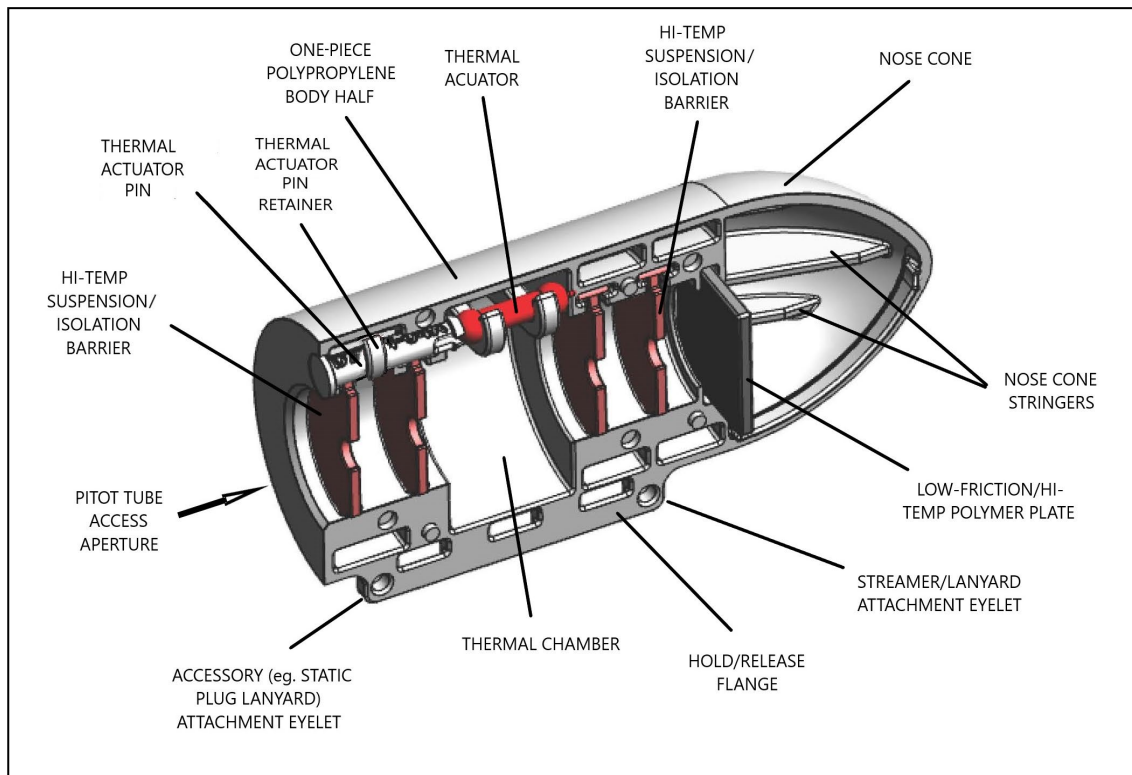

FIGURE 1
Handle the PSV2 components with care as there will be some residual glass granules within the body that could cause minor cuts to fingers. Inspect the entire pitot cover. There will be a small amount (about three drops) of a harmless orange liquid liberated within the pitot cover body. Ensure that the Thermal Actuator Retainer is in place in the back of the left body half (see Figure 1 above). If it is not in place, it has dislodged and can be located on the ground. Remove the Thermal Actuator Retainer from the retainer ring and keep for re-use or use a spare from the Delta Re-Charge Kit. Rinse the entire pitot cover body halves with water. Towel dry or allow to air-dry. Inspect the exterior and interior of the body halves for damage. Look for tears or thermal degradation of the silicone isolation barrier discs and Detaining Bridle if applicable, ie. cracking, surface powdering or abrasion at edges of contact with the pitot tube surface). A thermal release under typical conditions will not damage the PSV2*. Do not re-use the PSV2 if any damage is noted.
*Note: Time for pitot tubes to reach maximum surface temperatures vary. Some pitot tubes may become hot enough to cause degradation of the Silicone Isolation Barriers (fig 1) and/or Detaining Bridle. It is normal for the contact surfaces of the silicone to become darkened and grey with normal use and is not indicative of any degradation. Heat degradation is characterized by very fine stress cracks and granularity or abrasion at the edges of contact with the pitot tube surface. Thermal degradation can show up after one or more thermal ejections. If heat stress is present, tears can develop and/or expand after repeated placement/removal cycles and the PSV2 may not function properly. Thus, thermal degradation requires replacement or rebuilding of the PSV2. Note in the PitotShield V2 Owner's Instruction Manual in Section 10-Limitations, in case of a thermal activation of the PSV2 in conditions of extreme cold and/or icing, the pitot cover may not release in a timely manner and can become internally damaged from the extreme heat. In this case, and like any conventional pitot tube cover that has not been removed before aircraft operation, the aircraft may be rendered unairworthy and the PitotShield V2™ cannot be re-used.